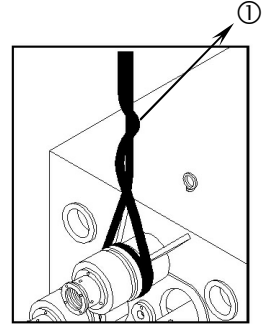

Figure 1
- Wrap a belt capable of carrying at least 4 tons around the top roll's shaft (shown by ① in fig. 1).